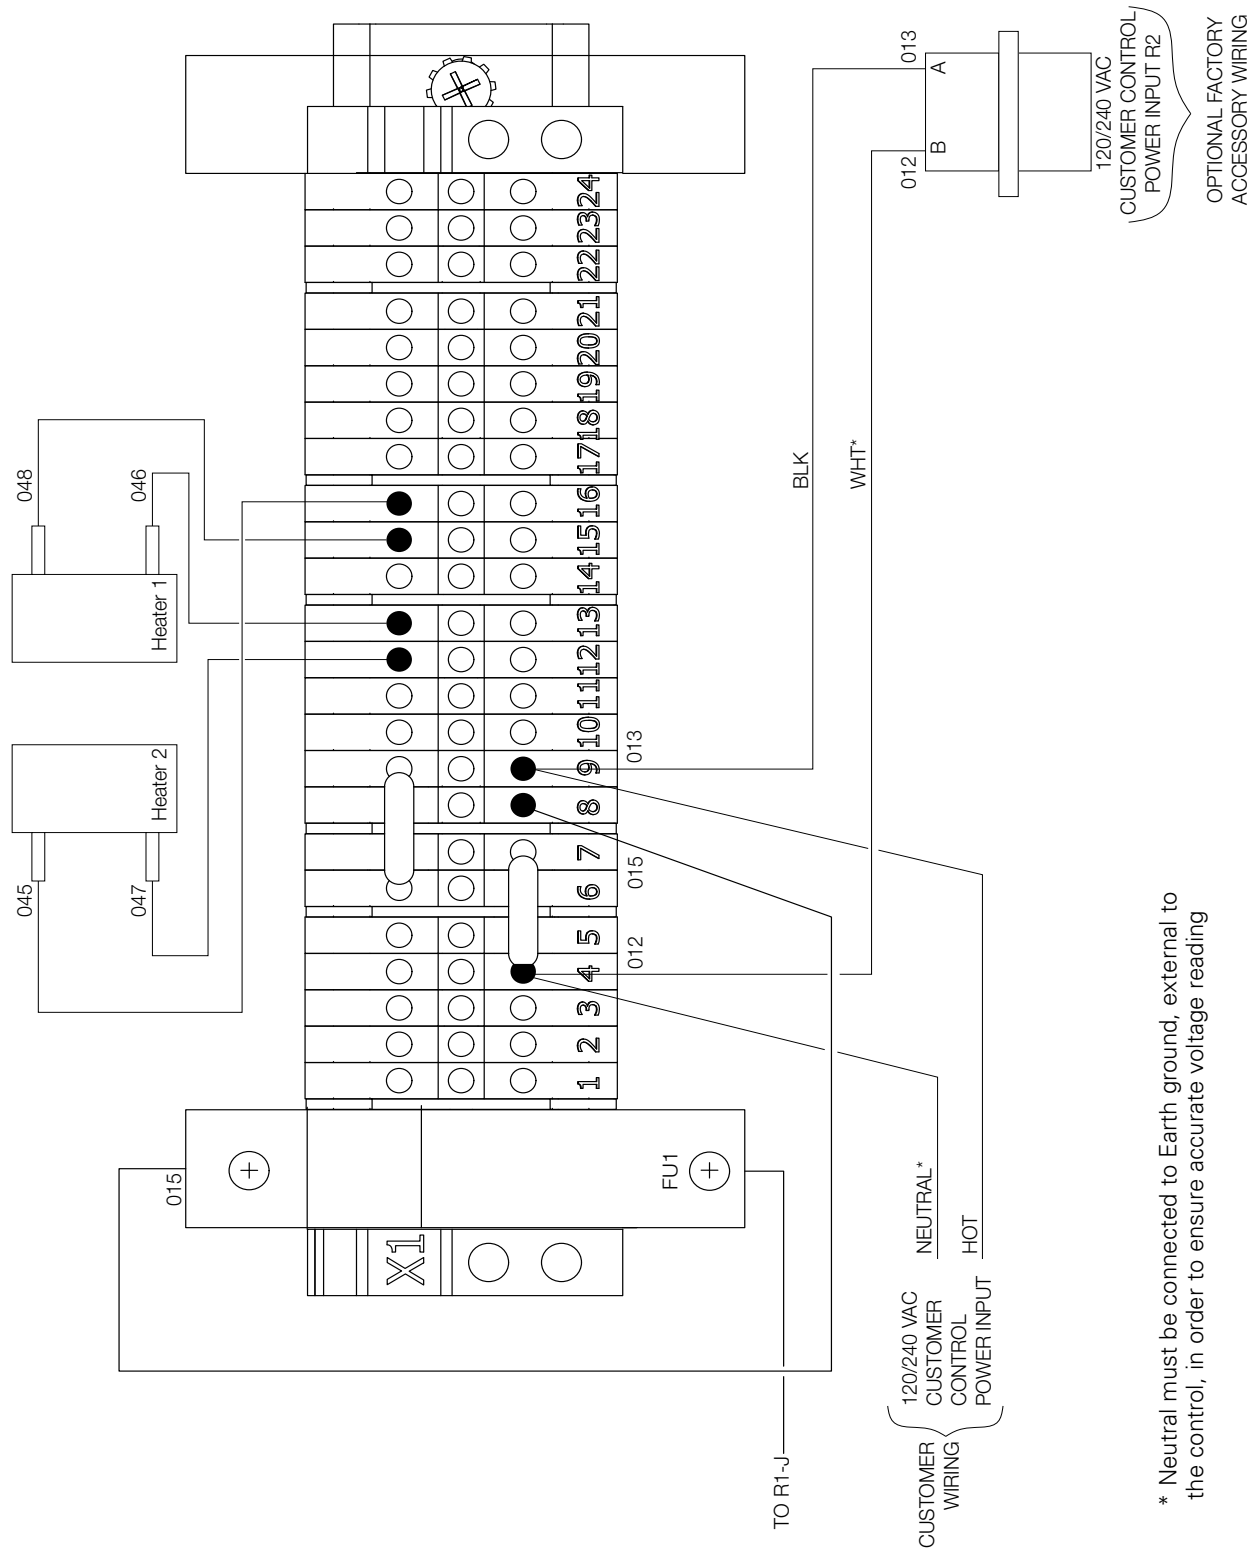

Figure 21. 120 or 240 VAC 2-wire control power input (shown with default factory wiring connected to single-phase voltage input supply)
See Figure 21 for single-phase incoming voltage supply for 120 VAC or 240 VAC.
Terminal Block X1 provides power and sensing voltage to the SPEAR single-phase recloser control modules. Terminal Block X1 is used to connect sensing transformer voltage. The wiring of the transformers should follow the application illustrations per Figure 21.
- Follow the grounding requirements shown on the Voltage Sensing wire diagram appropriate for your two-wire application (Figure 21).